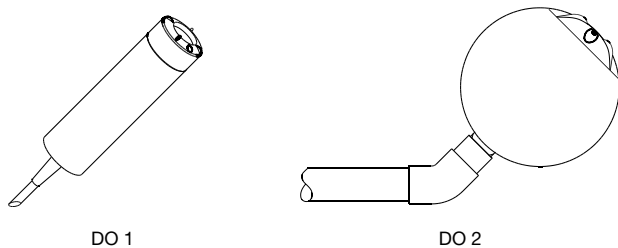

Fig. 13: Positions of DO sensors during initialisation
- Hold the sensor up (as shown in Fig. 13) – after a few seconds it will emit a 4 mA signal (= 0 ppm). After 2 min. the sensor is initialised.